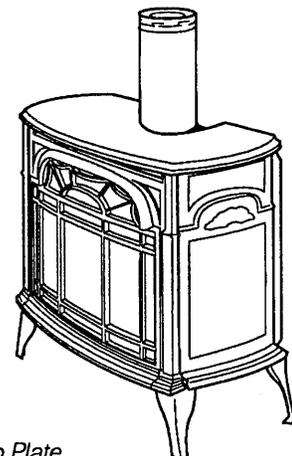

Figure 33. Install the Top Plate.
Step 2. Place the Top Plate over the sides and front. The upper edge of the side plates should seat into the channel in the underside of the Top. Fig. 33.